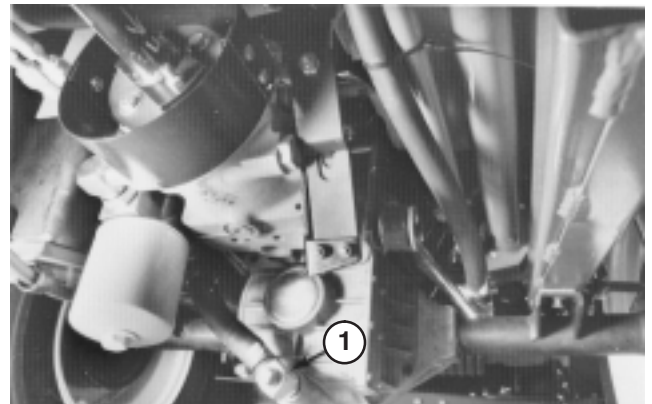
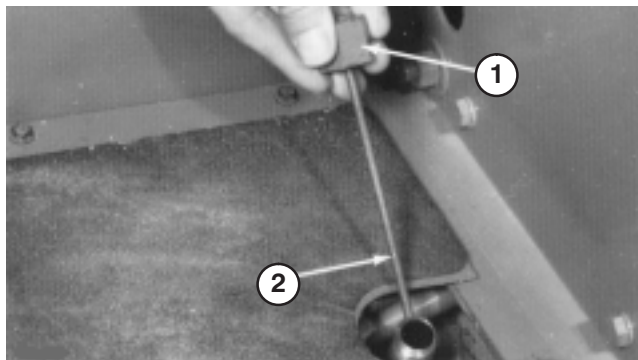

Figure 62
Figure 63
4. Remove drain plug from fitting between axle housing and oil filter and allow oil to flow into drain pan (Fig. 62).
6. Install drain plug in fitting between axle housing and oil filter (Fig. 62).
7. Remove dipstick from axle filler tube (Fig. 63) and fill axle to proper level with correct type and viscosity oil recommended for expected ambient temperature conditions; refer to table above.
9. Leave machine set for two additional minutes, then remove dipstick and check oil level in axle (Fig. 63). If level is low, add oil until level matches groove in dipstick (Fig. 63). If level is too high, remove drain plug (Fig. 62) and drain oil until oil level matches groove in dipstick.